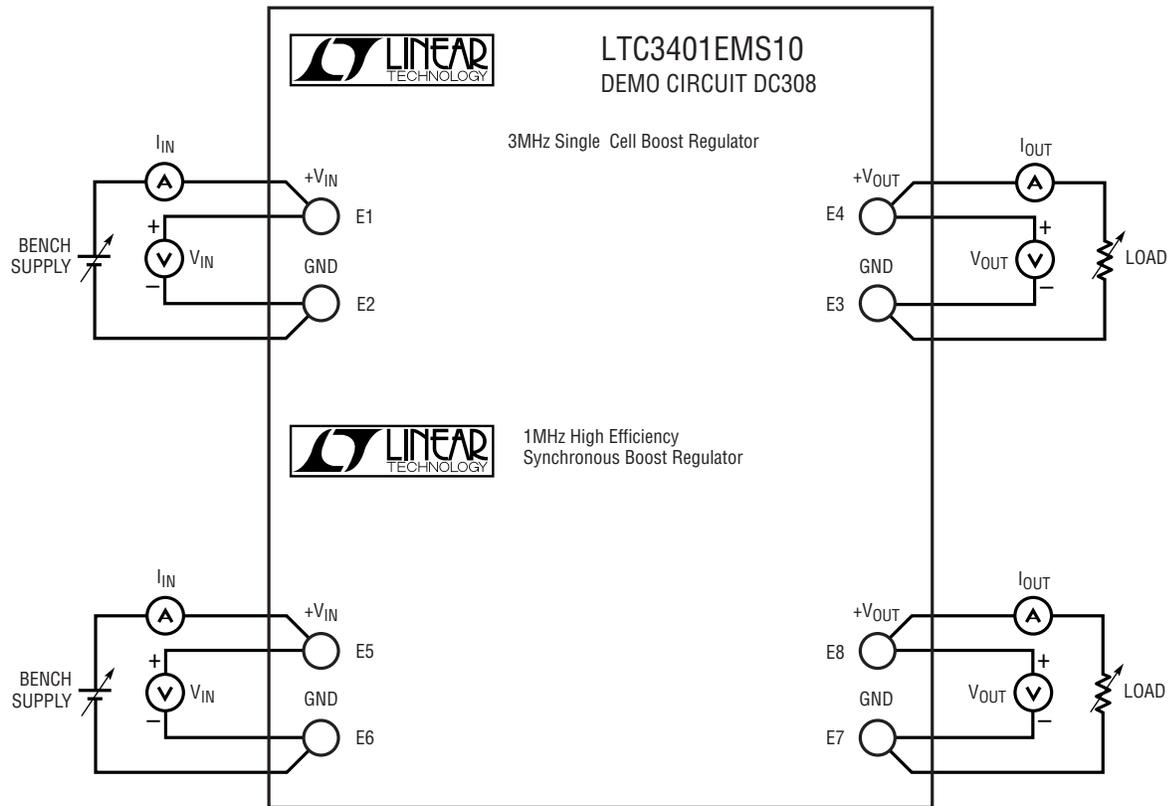

Figure 1. DC308 Hookup Diagram
4. Proper hook-up is essential for accurate and meaningful evaluation of efficiency and regulation. Figure 1 shows the appropriate arrangement of supply, load, ammeters and voltmeters.